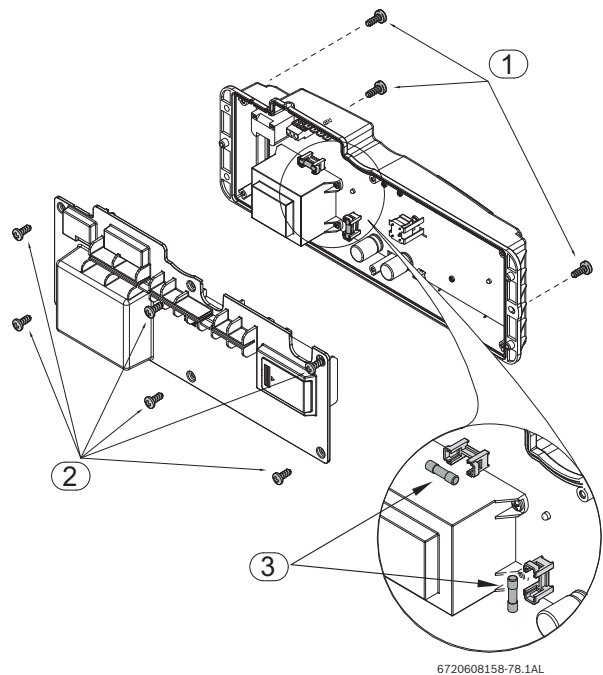

Fig. 46 Location of fuses
- Pull control unit free to access and remove the six screws from the back cover of the control unit, see Fig. 46, pos. 2.
- Check the fuses in the printed circuit board, see Fig. 46, pos. 3.